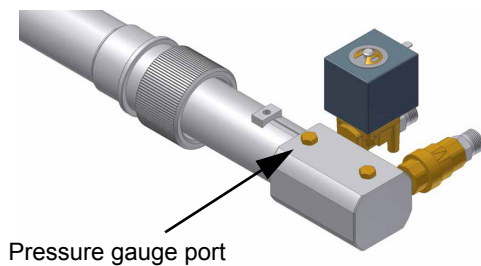

Fig. 14
- 10 the nozzle supply pressure is already factory-set and must not be changed. Only if necessary, adjust the supply pressure as follows (see related paragraph); insert a pressure gauge into the port showed on Fig. 14 and act on on the pump adjusting screw **VR** (see Fig. 13) as to get the nozzle pressure at 20bar or 25bar (according to the nozzle model: Bergonzo or Fluidics nozzle - see page 24).